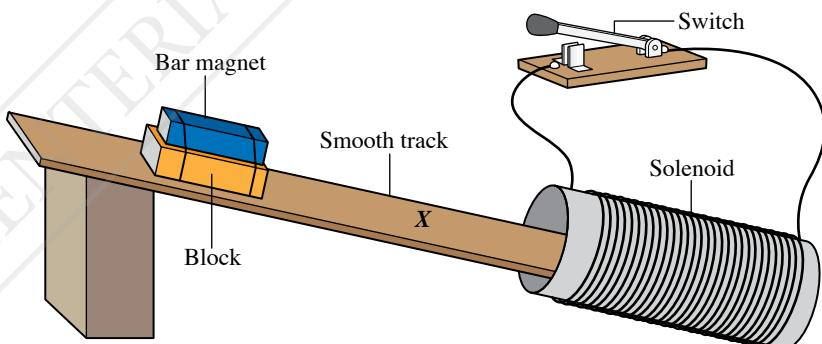

Figure 5
6. Figure 5 shows a wooden block with a bar magnet tied to it sliding with an acceleration down a smooth track.